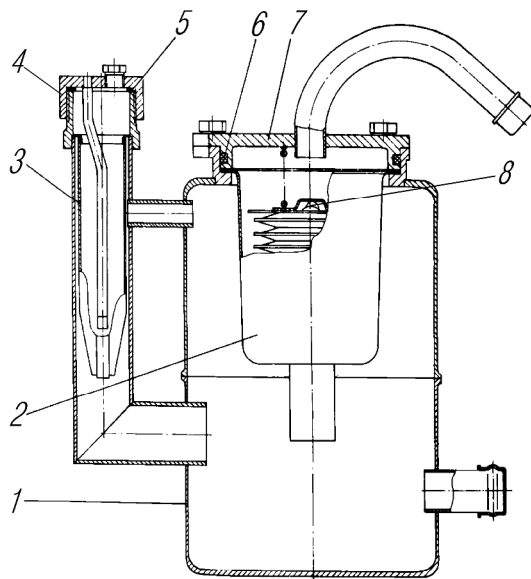

Fig.63. Steering Oil Tank:
The tank is located separately from the pump. The tank is provided with filler filter 3 (Fig. 63). Returning to the tank oil passes through filter 2. The filter elements being clogged, valve 8 opens. The oil level in the tank should be within plain section on the dipstick and is measured by means of the dipstick with plug 4 being unscrewed.
5. Remove cover 7 (see Fig. 63) of the oil tank, filter 2, and wash the filter.